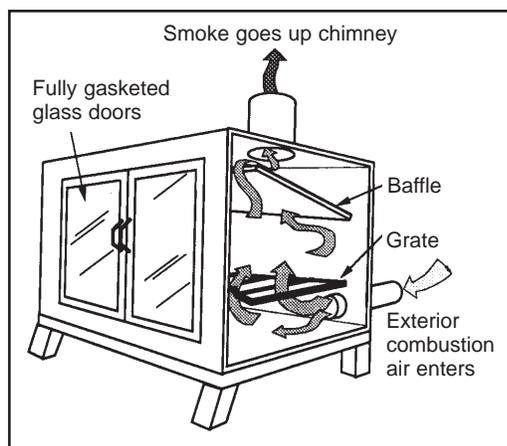

Fig. F-5: Energy-efficient wood stove
- Freestanding wood stove (see Figure F-5). Freestanding wood stoves are designed to radiate heat in all directions. A quality wood stove is equipped with a fully gasketed door, a catalytic converter, and outside combustion air. They require relatively little combustion